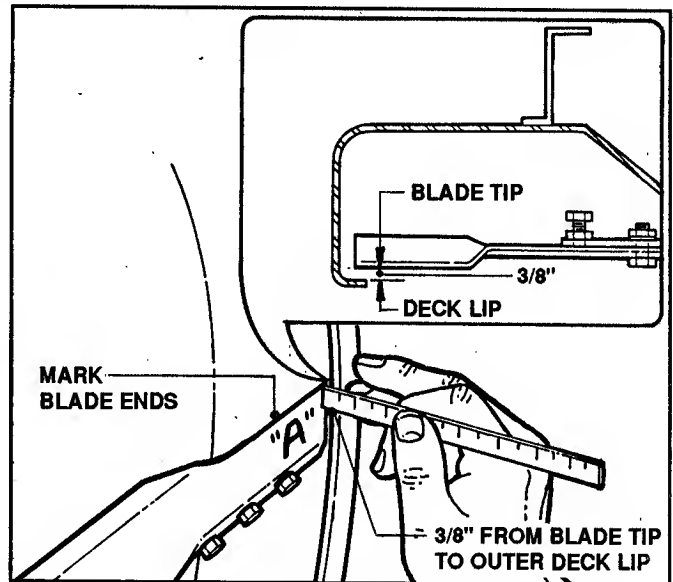

FIGURE 4.8
4. Measure the distance between deck lip and blade tip. Note the measurement. See Figure 4.8.